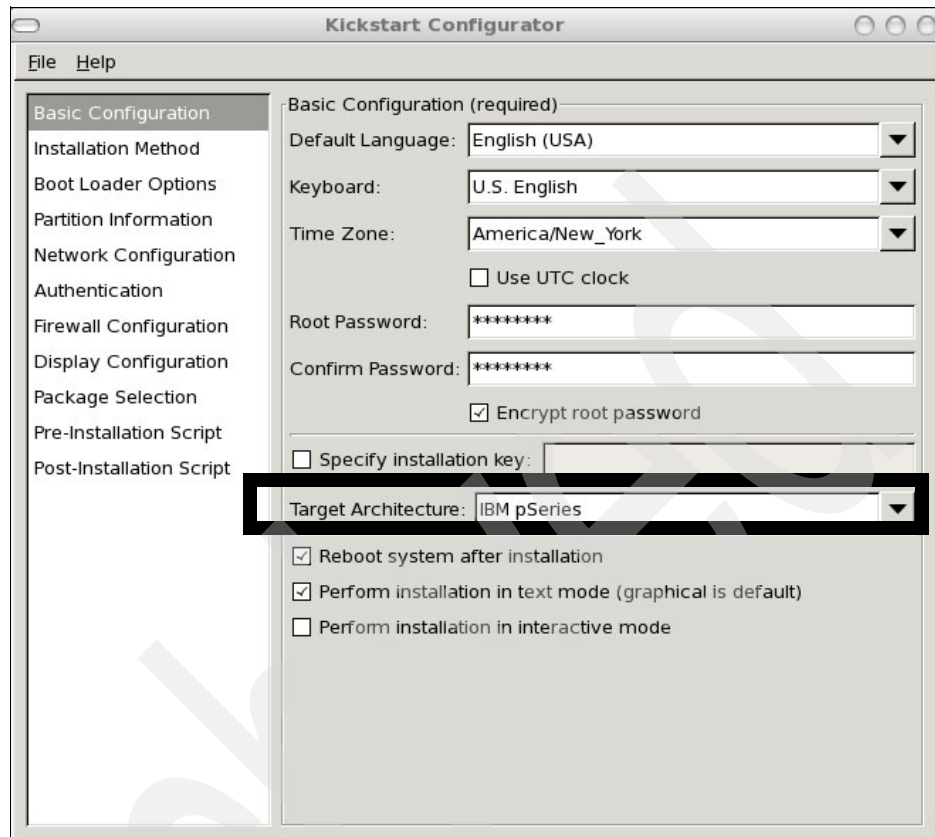

Figure 8-23 Kickstart main window with Basic Configuration panel (©2008 Red Hat, Inc.)
2. A window opens showing the Basic Configuration panel. The most important configuration setting is the Target Architecture setting highlighted with a rectangle in Figure 8-23 on page 350. It is also important to define a root password to enable SSH login after installation. This password is encrypted in the configuration file.